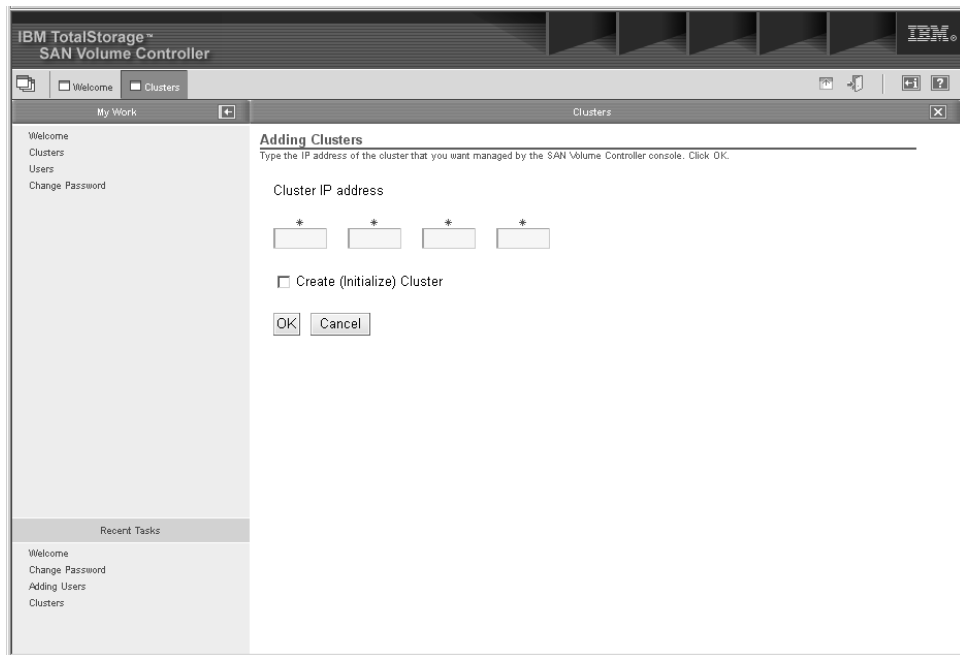

Figure 26. Add Cluster panel
- a. The Welcome panel is shown as in Figure 26 on page 108. Click the **Add SAN Volume Controller Cluster** button.